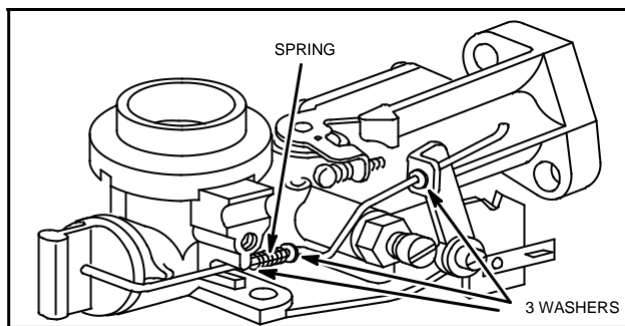

Fig. 185 - ASSEMBLING CHOKE-A-MATIC LINKAGE
1. To assemble, slip washer(s) and spring over choke link, Fig. 185.